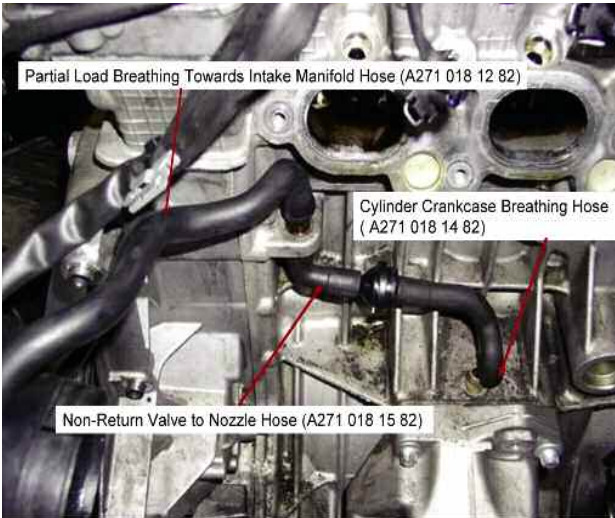

Figure 1
- 2.Remove and inspect the partial load breathing towards intake manifold hose, cylinder crankcase breathing hose and the non-return valve to nozzle hose for crankcase ventilation. If damaged, replace as needed. Refer to Figure 1 for details.